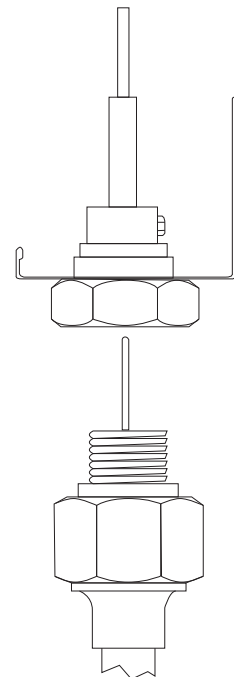

Fig. 3-2
7. Connect the CATV coax cable to the type G2 connector on bottom of the enclosure. (Refer to figure 3-2.)